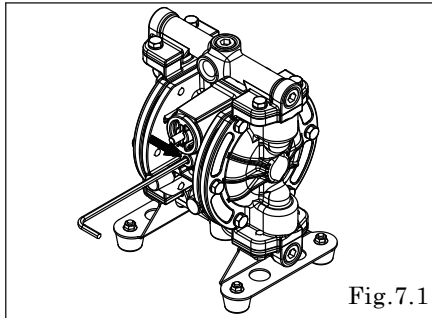

Fig.7.1
- Loosen the plug with hexagonal box wrench and remove remaining air from inside the pump. [Fig.7.1]